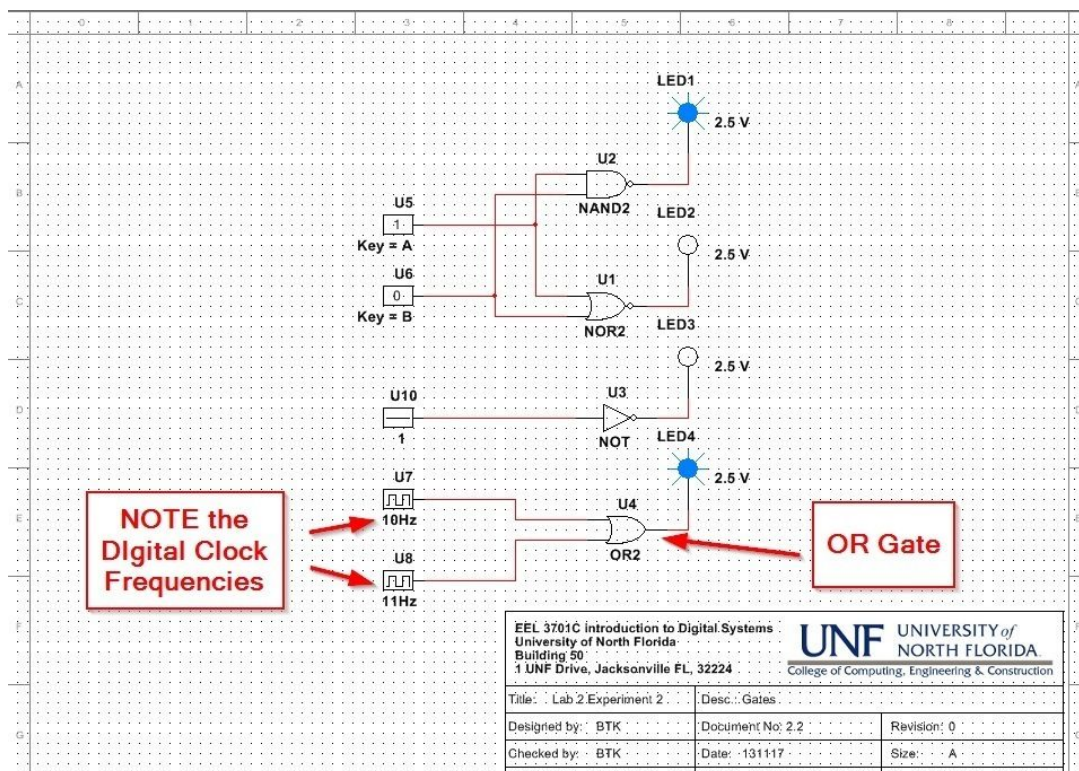

Figure 9. Using DIGITAL_CLOCK sources.
8) Change the clock rates of the DIGITAL_CLOCK sources using their properties pop-up window. Use the values shown in Figure 9.